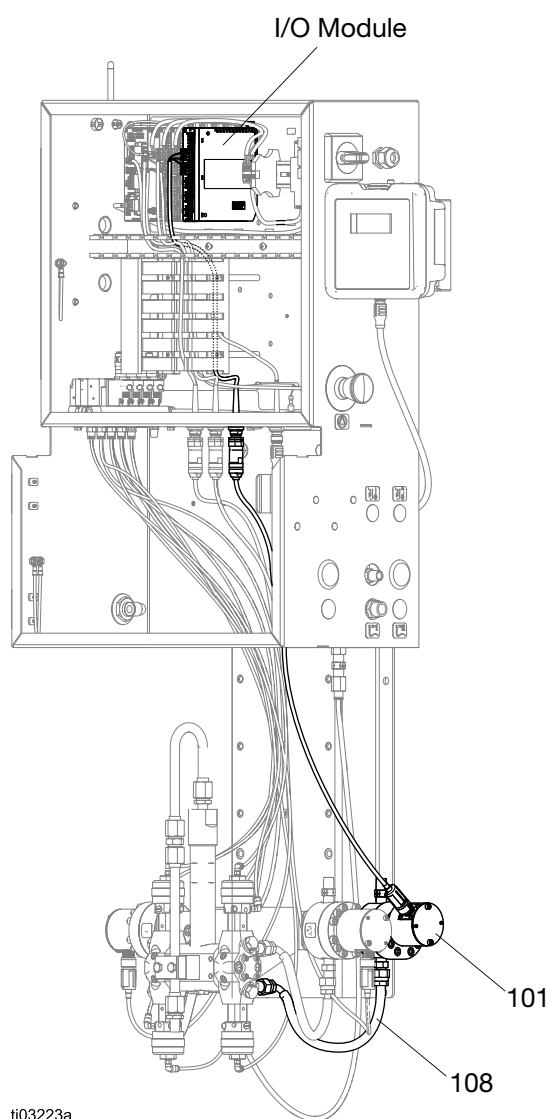

FIG. 1: Package Meter Proportioner Typical Installation
4. Plumb the steel braided line (108) from the solvent meter (101) to the mix manifold. See FIG. 1 and FIG. 4.